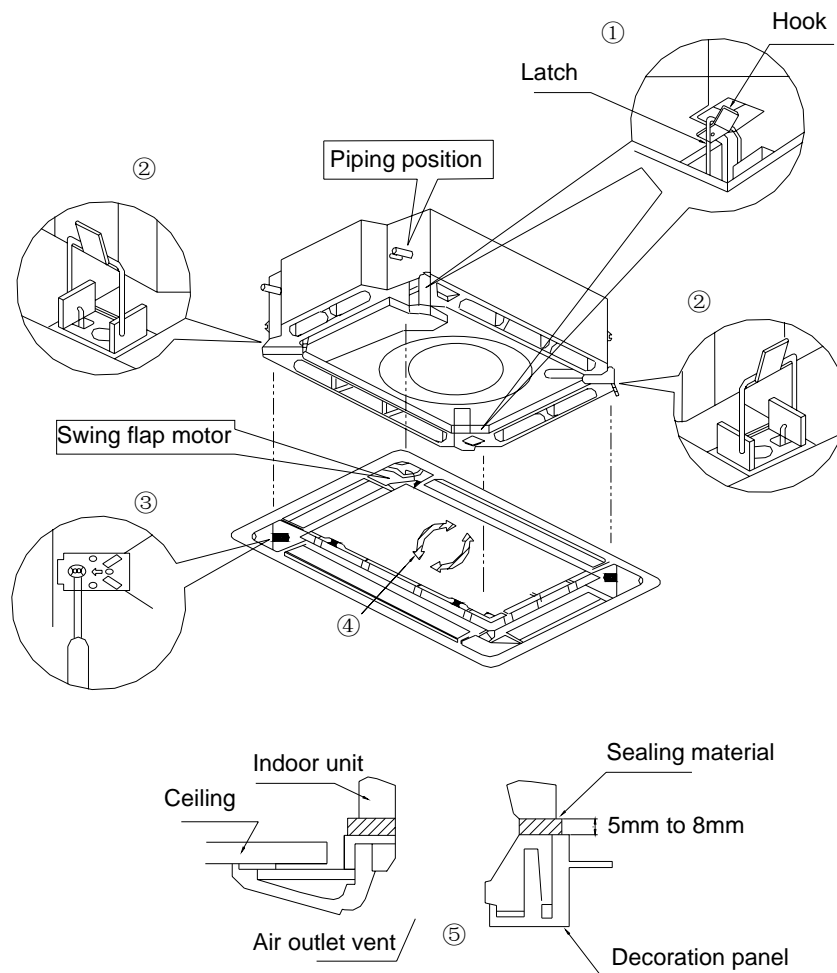

Fig 4
1. Set the panel to the indoor unit body by matching the position of the swing flap motor of the panel to the piping position of the panel to the piping position of the indoor unit as shown by fig.4.
① Install the panel on the indoor unit temporarily. When install, hang the latch on the hook that is located on the opposite side of the swing flap on the panel of the indoor unit. (2 positions)
② Hang the remaining 2 latches to the hooks on the sides of the indoor unit.(Be careful not to let the swing motor lead wire get caught in the sealing material.)
③ Screw the 4 hexagon head screws under the latches in about 15mm. (The panel would rise)
④ Adjust the panel by turning it toward the direction pointed by the arrow as shown in fig.4, so that the adjust board connect the ceiling well.
⑤ Tighten the screws until the thickness of the sealing material between panel and indoor unit reduced to 5-8mm.